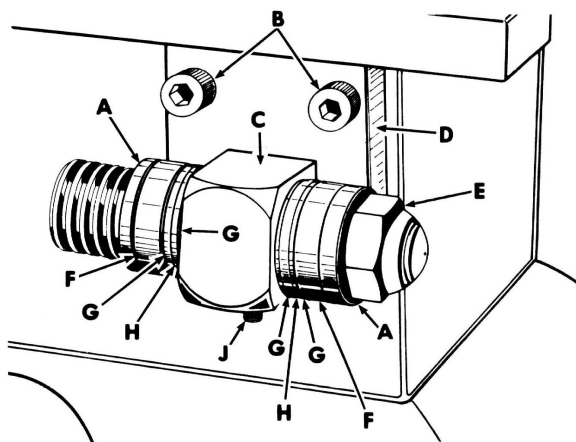

Figure 8
A. Install bearing (C, fig. 8) in bracket (D) but DO NOT tighten set screw (J).
B. Install spacer (F), plate (G), bearing (H), and plate (G) on lead screw.
C. Slide bearing bracket (C) on screw.
D. Install plate (G), bearing (H), plate (G), spacer (F), collar (A) and cone lock nut (E) on screw.